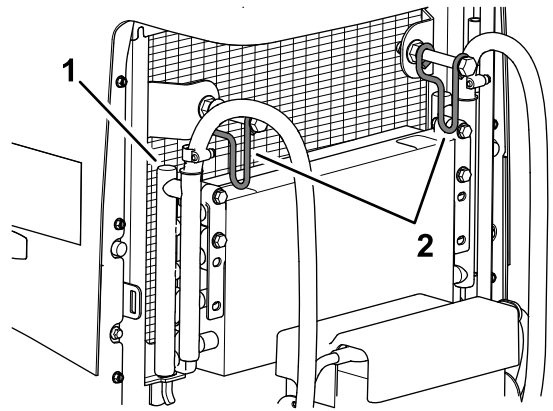

Figure 113
- Rotate the 2 oil-cooler latches inward, and tilt oil cooler (Figure 113).